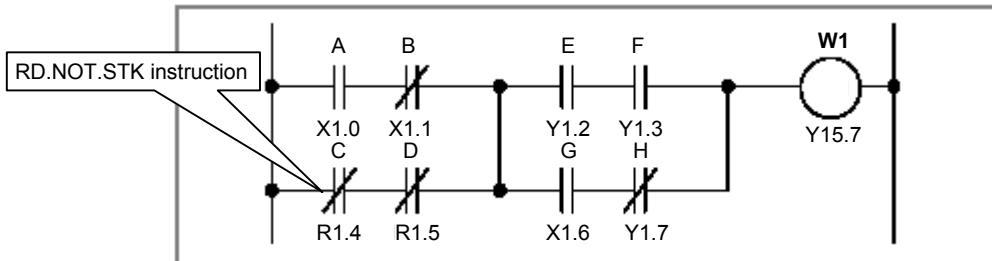

Fig. 4.1.11
- (1) The RD.NOT.STK instruction stacks the interim result of a logical operation. Use this instruction when the signal you specify is contact B ($-|/|-$). After shifting the register content one bit to the left, the instruction reverses the status of the signal at the specified address and sets it in the ST0 bit.
- (2) For examples of how the RD.NOT.STK instruction is used, see Fig. 4.1.11 and Table 4.1.11.